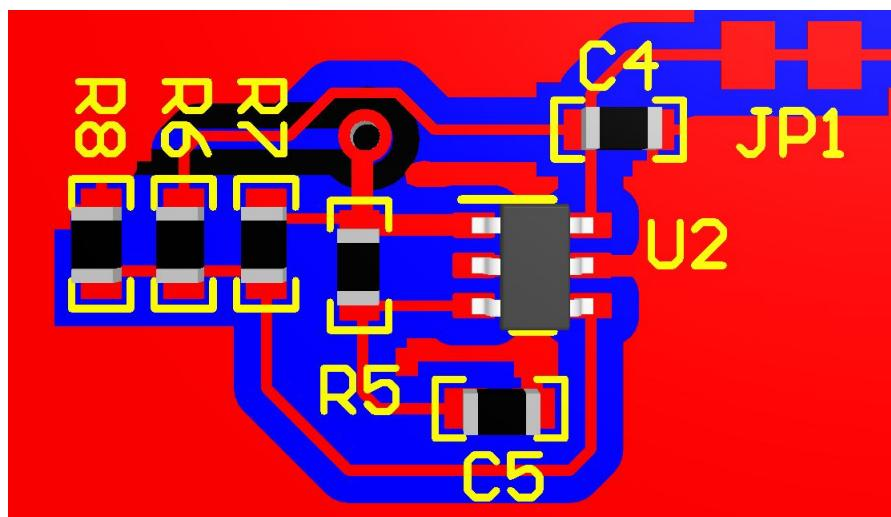

Figure 73. Oscillator Circuit Layout Example
- To minimize supply noise, place a decoupling capacitor (0.1- $\mu\text{F}$  ceramic, surface-mount capacitor) as close as possible to  $V_S$  as shown in Figure 73.